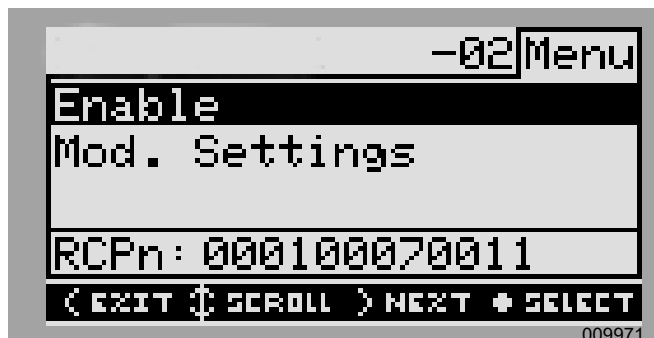

Figure 3-9. Enabling and Disabling Devices (2 of 3)
- See Figure 3-9. Highlight Enable and press the center button.